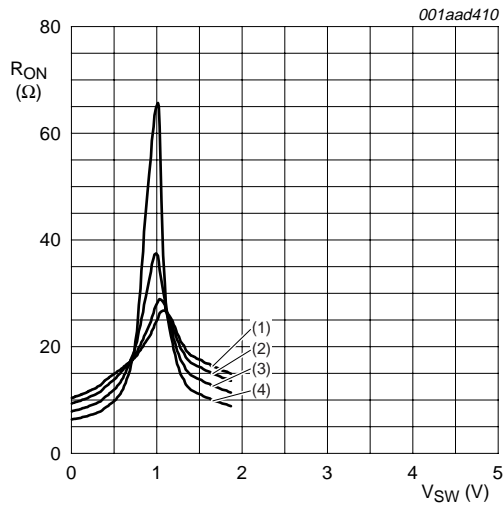

**Fig 7. Test circuit for measuring switch ON resistance**
**Table 9. Resistance  $R_{on}$** At recommended operating conditions; voltages are referenced to GND (ground = 0 V); see test circuit Figure 7.
At recommended operating conditions; voltages are referenced to GND (ground = 0 V); see test circuit Figure 7.